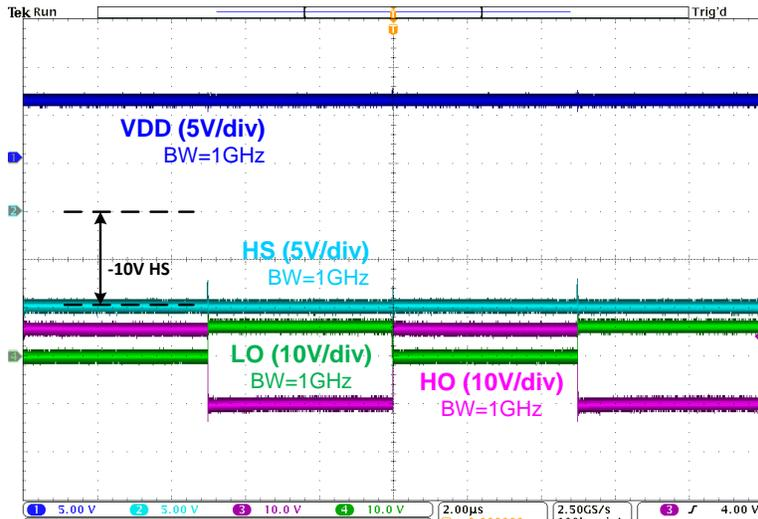
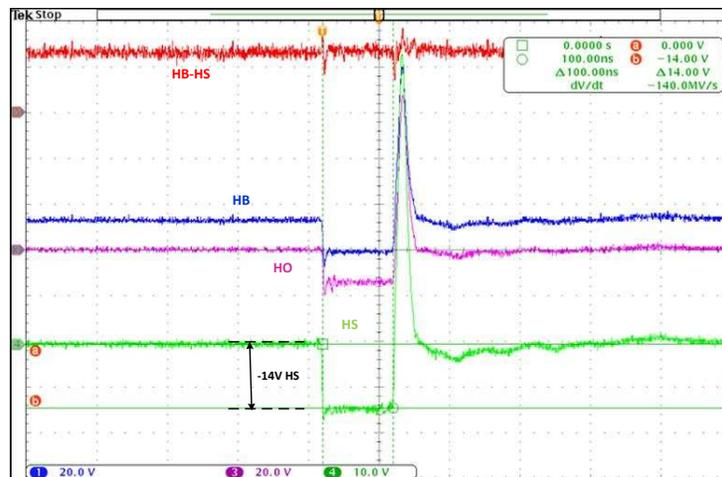

Figure 4. Switch node (HS) DC negative voltage handling capability of the UCC27282
Figure 5. Switch node (HS) negative transient voltage handling capability of the UCC27282
For half-bridge power stage of motor drive applications, switch node (node that connects high-side and low-side power MOSFET) swings negative every switching cycle. Parasitic diode of low-side power MOSFET in this configuration clamps this negative voltage to the diode drop. Most of these diodes have relatively slow recovery characteristic and therefore the negative voltage on switch node exist for significant amount of time. The same negative voltage appears on the half-bridge gate driver IC. If the gate driver IC is not designed to handle this negative voltage, the gate driver might malfunction or might get damaged completely. The UCC27282 is designed to handle negative voltage on the HS node. **Figure 4** shows the switch node (HS) negative voltage handling capability of the UCC27282. The supply current was monitored during the test and observed no difference in supply current drawn by the UCC27282 half-bridge gate driver. The UCC27282 was fully tested before and after the test and no shift in any of the electrical characteristics was observed.
Figure 4 shows DC negative voltage handling capability of the UCC27282 half-bridge gate driver. The UCC27282 can handle maximum of negative 10V DC and negative 14V short duration transient. In most applications, HS voltage goes negative for short duration as explained earlier in this section. UCC27282 has -14V rating for short duration pulses on HS pin. **Figure 5** shows this negative transient voltage handling capability of the UCC27282. All the waveforms were taken using single ended (ground referenced) probe. This waveform shows that HO was held low before, during, and after the -14V transient on HS node. The state of the output pins did not change due to this negative transient.